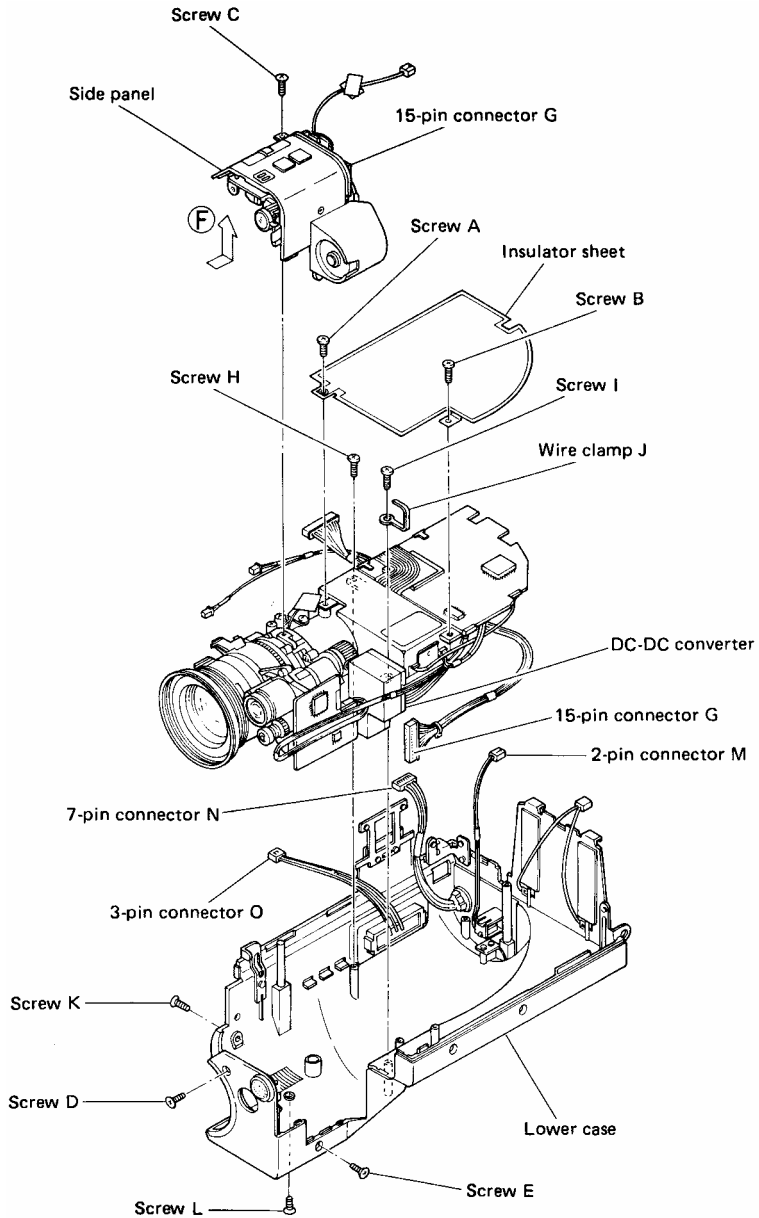

FIGURE 7-11 Taking apart the lower portion of a Zenith camcorder.
- 1 Refer to Fig. 7-11. Take out the screws marked *A* and *B*, and remove the insulator sheet.
- 2 Take out the screws (C), (D), and (E). Disengage the side panel from the lower case by shifting and raising it.
- 1 Refer to Fig. 7-11. Take out screws labeled *A* and *B*, and remove the insulator sheet.
- 2 Take out the screws (C), (D), and (E). Disengage the side panel from the lower case by shifting and raising it, as shown by the arrow labeled *F*. Disconnect the connector indicated by *G*.